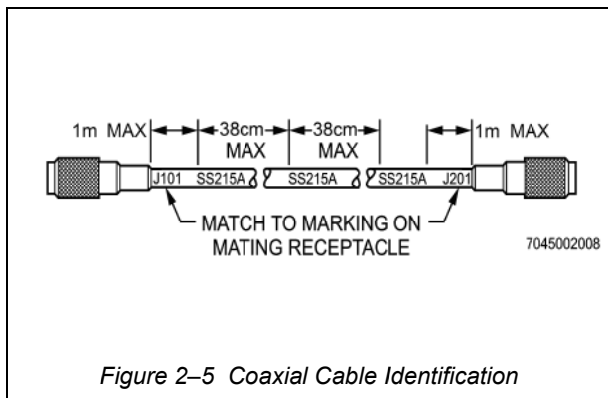

Figure 2-5 Coaxial Cable Identification
35. Coaxial cable should NOT be hot-stamped directly. The marking pressure and stress (tension and torsion) applied while the cable moves through the machine can create electrical changes in cables and physical damage in miniature cables. When laser marking is unsuitable for marking coaxial cable, use pre-marked sleeves (refer Figure 2-5) as described in paragraph 43 and 44.